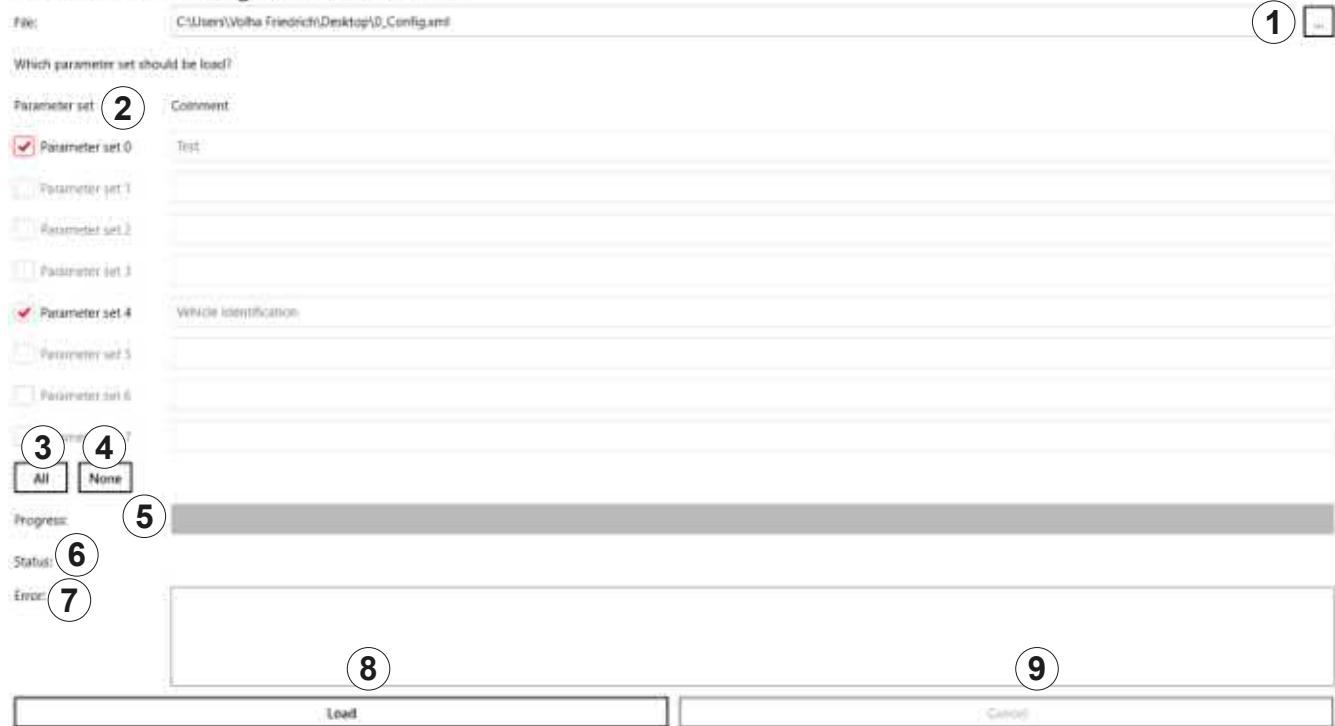

Fig. 26: File: load reader configuration from file
① File	<p>opens a dialogue to select the configuration file To load reader configuration to file:</p> <ol style="list-style-type: none"> 1. Click File (④ in Fig. 26). ⇒ A dialogue appears. 2. Select the directory and the configuration file from which the parameter sets will be loaded. 3. Click Open. ⇒ The parameter sets saved in the configuration file are loaded and are marked with a red tick. ⇒ The progress bar (⑤) shows the progress of the save operation.
② Parameter set	see Parameter set , p. 53
③ All	see All , p. 53
④ None	see None , p. 53
⑤ Progress	shows the progress of the load operation by means of the progress bar
⑥ Status	shows the status of the <code>SetParameterByConfigID</code> parameter
⑦ Error	shows errors in the <code>SetParameterByConfigID</code> parameter